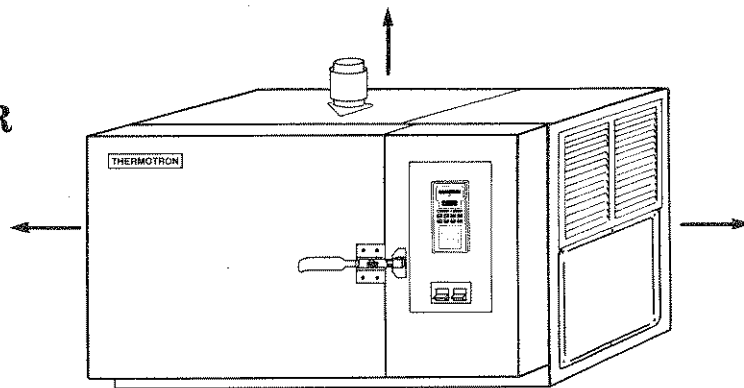

FIGURE A1
3. Leave a minimum of 12 inches of air space on all sides of the chamber for air circulation. See Figure A1.